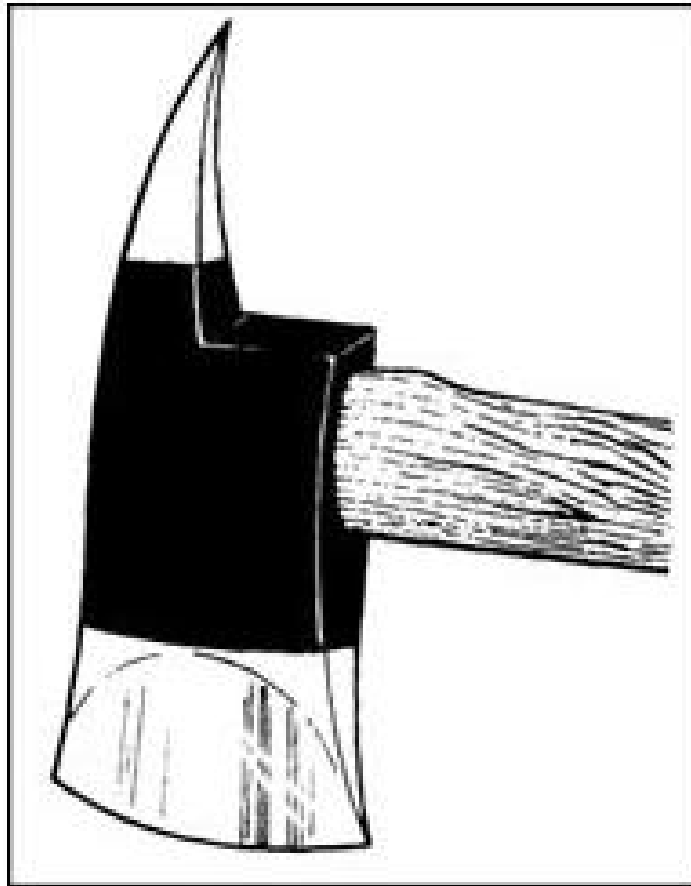

Figure 551-8ST-1004\_50 (Pike Head Fire Axe)
8. Inspect fire axes. Inspect fire axes periodically (Figure 551-8ST-1004\_50)